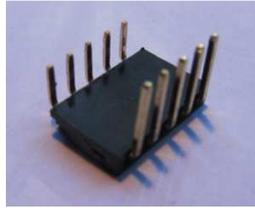

Figure 6 - Connector subassembly
4. Insert the shorter end into the socket so that the final subassembly looks like Figure 6 below.